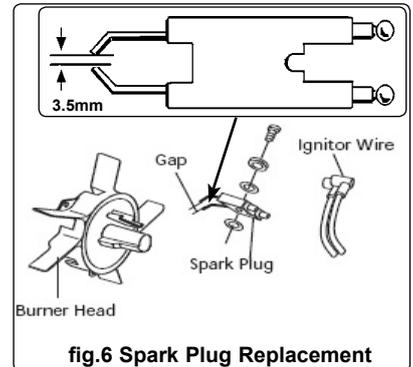

fig.6 Spark Plug Replacement
- 7.3.1. Clean and check the plug gap every 600 hours, or replace if necessary. Clean the spark plug using a wire brush and set the gap to 3.5mm (fig.6).